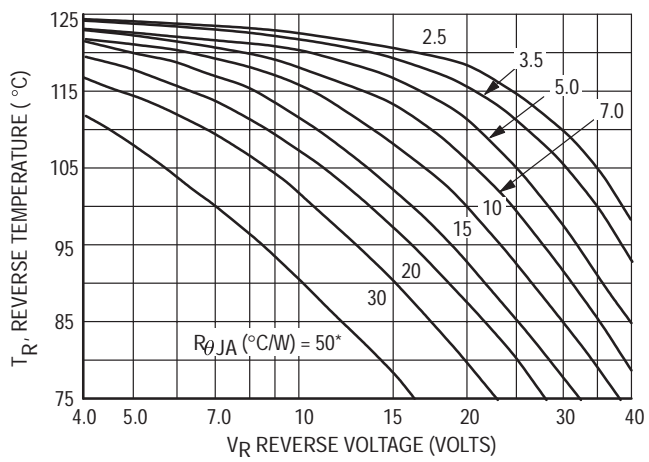

Figure 3. Maximum Reference Temperature – 1N5828
Step 2. Find T_R from Figure 3. Read $T_R = 121^\circ\text{C}$